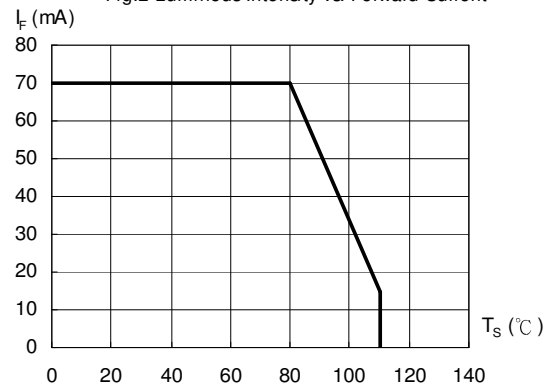

Fig.4 Allowable Forward Current vs. Solder Point Temperature
- Note: 1. Design of heat dissipation should be considered. For the allowable operating current at different operating temperature, please refer to fig 4, page 5.